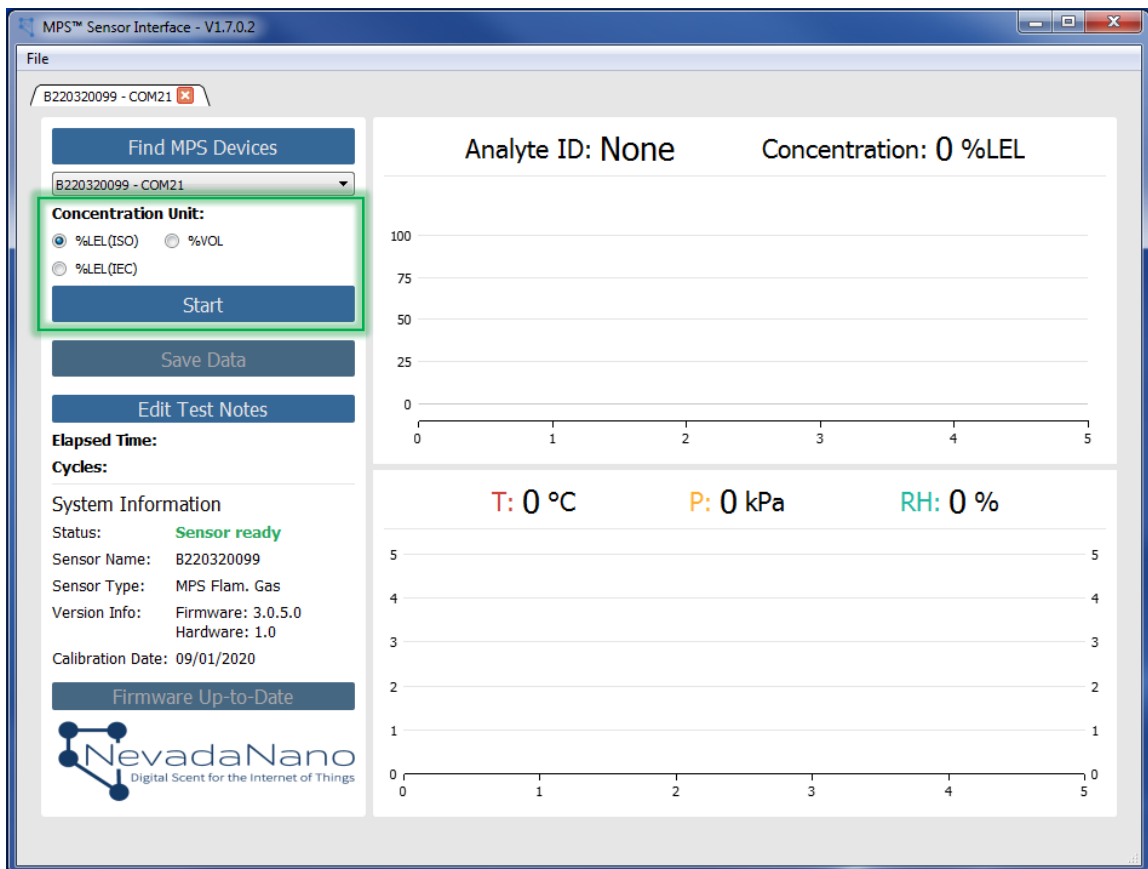

Figure 6 – MPS™ Flammable Gas Sensor Evaluation Software ready for testing. Sensor name is populated and start button is enabled.
1. After performing system setup, the concentration unit selector and start button will be enabled (highlighted in green in Figure 6). IMPORTANT: Start the flow of zero-air baseline gas over the MPS Flammable Gas Sensor and wait ~1 minute for baseline gas to replace ambient air before proceeding. Select the desired concentration unit (%LEL(ISO), %LEL(IEC)², or %VOL) and click Start to begin data acquisition. Once the test starts, the concentration unit cannot be changed until the test finishes.